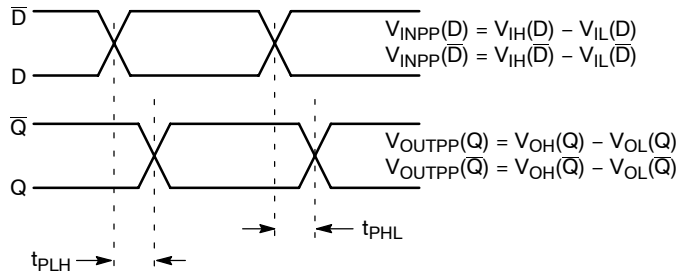

Figure 9. AC Reference Measurement
18. See Figure 9  $t_{skew} = |t_{PLH} - t_{PHL}|$  for a nominal 50% differential clock input waveform. Skew is measured between outputs under identical transitions and conditions @ 1 GHz.